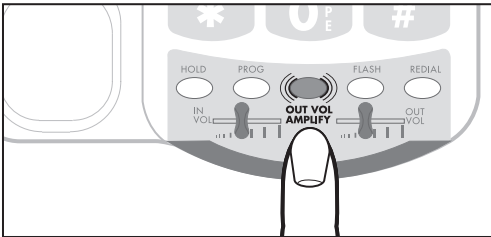

Figure 8 - AMPLIFY Button
1. Press the **OUT VOL AMPLIFY** button as shown in Figure 8 to turn the outgoing voice amplifier on or off.